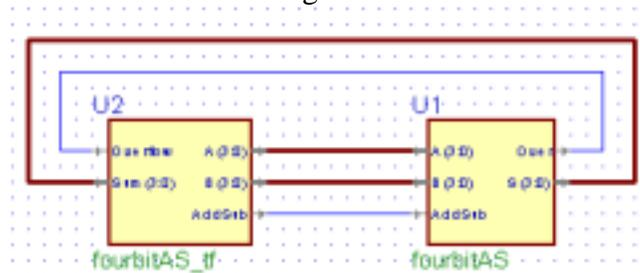

Figure 10
1. Once you have finished connecting the test fixture block symbol to your design’s block symbol, save, run the check diagram tool, and compile the new schematic. Your schematic should look like Figure 10.